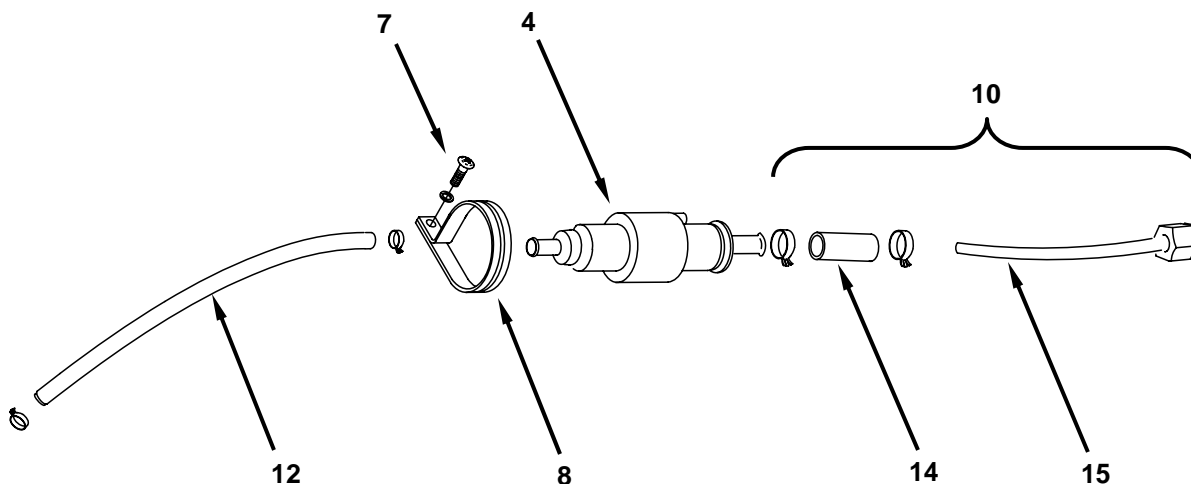

Figure 3. Replace the Fuel Pump and Fuel Pump Hoses – Disassemble Hoses.
8. Remove the fuel pump bracket (**Figure 3, Item 8**) and screw (**Figure 3, Item 7**) from the fuel pump (**Figure 3, Item 4**) and set aside.
9. Squeeze the hose clamp on the outlet hose (**Figure 3, Item 10**) of the fuel pump (**Figure 3, Item 4**) and pull the outlet hose off of the barbed fitting on the fuel pump. Drain any fuel onto a petroleum absorbent mat or tray.
10. Use pliers to release the hose clamp at the connection of the black hose (**Figure 3, Item 14**) and the clear tube (**Figure 3, Item 15**) on the outlet hose (**Figure 3, Item 10**), and separate the two hoses.
11. While working on petroleum absorbent material, squeeze the hose clamp and remove the fuel line (**Figure 3, Item 16**) leading to the inlet end of the fuel pump (**Figure 3, Item 4**).
13. Install the replacement fuel line (**Figure 3, Item 12**) to the inlet end of the fuel pump (**Figure 3, Item 4**). Ensure the hose is secure on the barbed fitting.
14. Assemble the outlet hose (**Figure 3, Item 10**) by inserting the clear tubing (**Figure 3, Item 15**) into the black hose (**Figure 3, Item 14**) approximately $\frac{1}{2}$ inch (13 mm), and retain in place with a hose clamp.
15. Install the outlet hose (**Figure 3, Item 10**) at the outlet end of the fuel pump (**Figure 3, Item 4**). Ensure the hose is secure on the barbed fitting.
16. Slide the fuel pump bracket (**Figure 3, Item 8**) over the fuel pump.